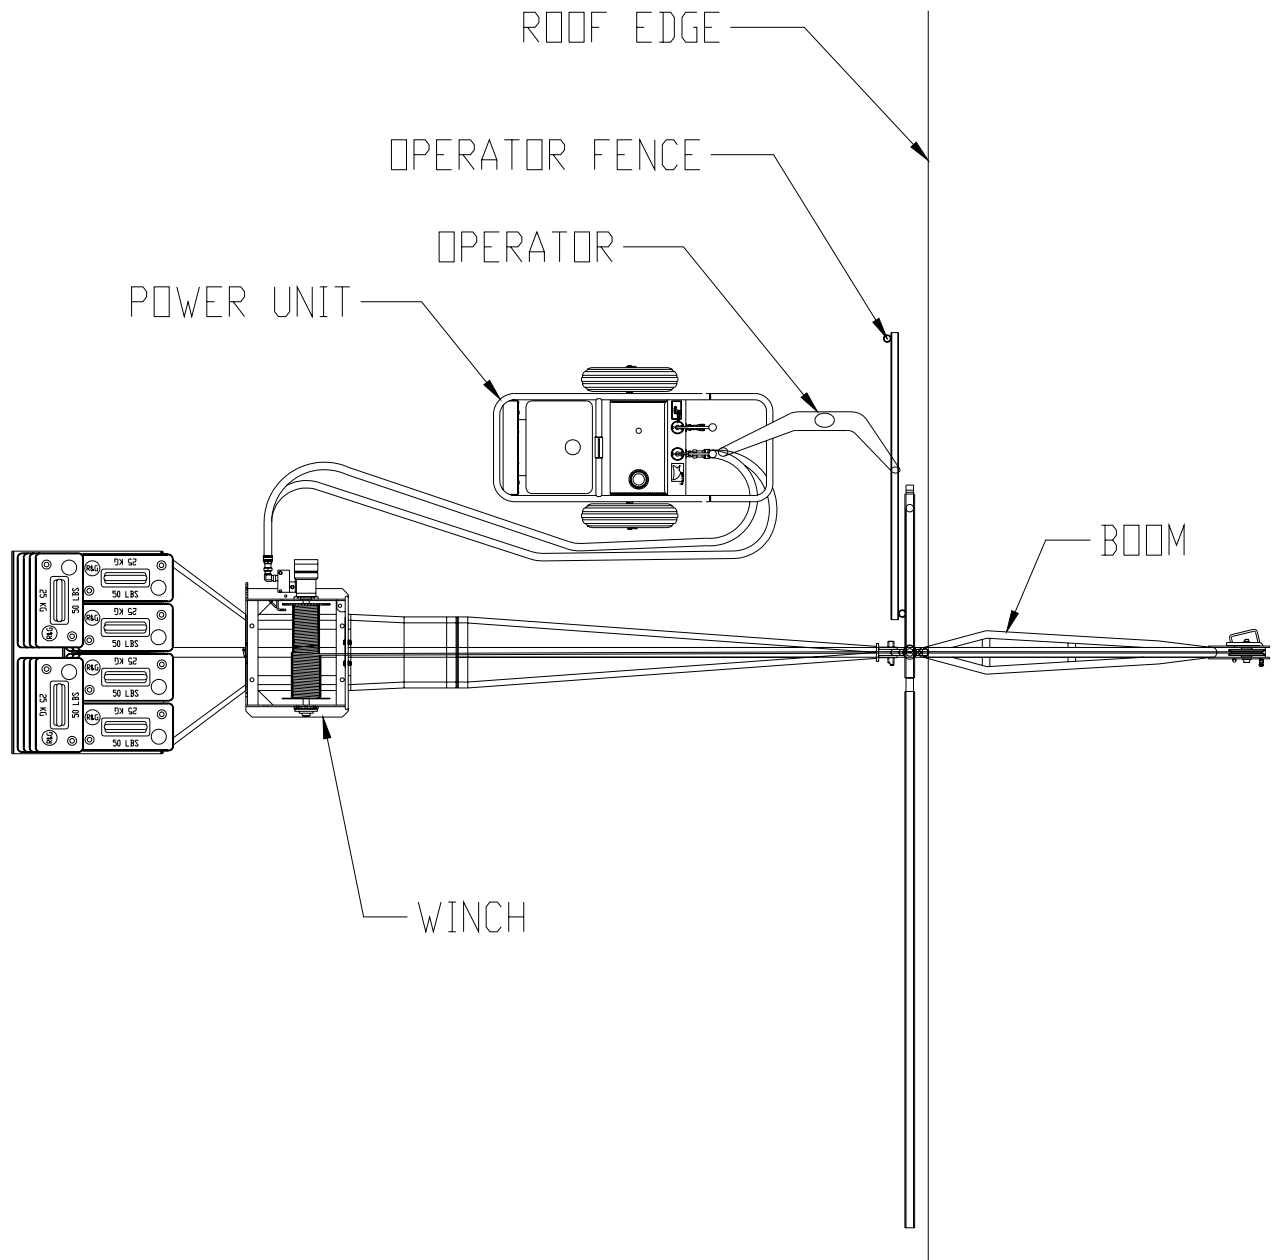

Figure 4-3.
3. The hoist operator must remain behind the operator fence when operating the hoist. All personnel must be protected by OSHA compliant fall protection when handling loads at the roof edge. See Figure 4-3.